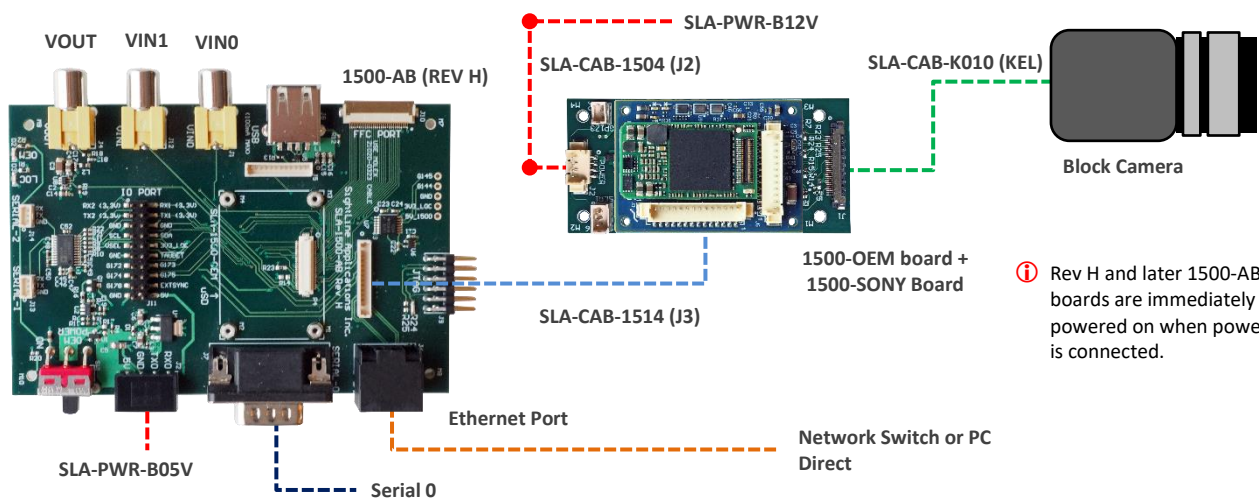

Figure 3: 1500-OEM Block Camera Bench Setup
- ⚠ CAUTION:** Power to the 1500-OEM board is provided through the 1500-Sony interface board using the SLA-PWR-B12V power supply shown in Figure 3. Powering the OEM through the J3 power pins and through the 1500-Sony board can damage the OEM.